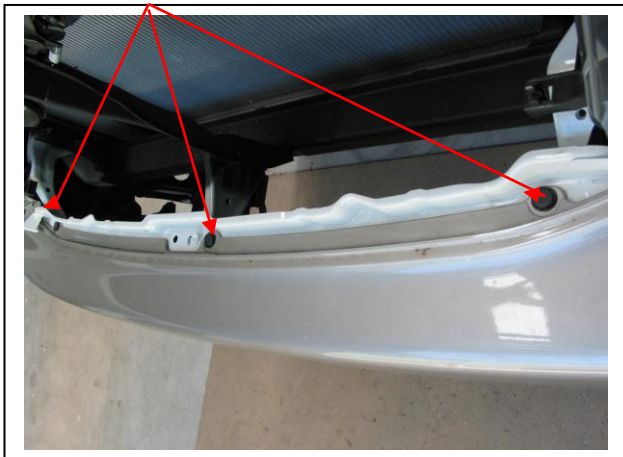

Figure 1
1. Lift Bonnet. Remove grille, three PK screw at top and two plastic clips at bottom. Remove bumper cover. Three plastic clips behind bottom of grille area, **See figure 1**, one 10mm head PK screw (each side at top of bumper side returns and four to six 10mm head bolts (depending on model) along bottom of bumper. Disconnect original bumper lights as removing.